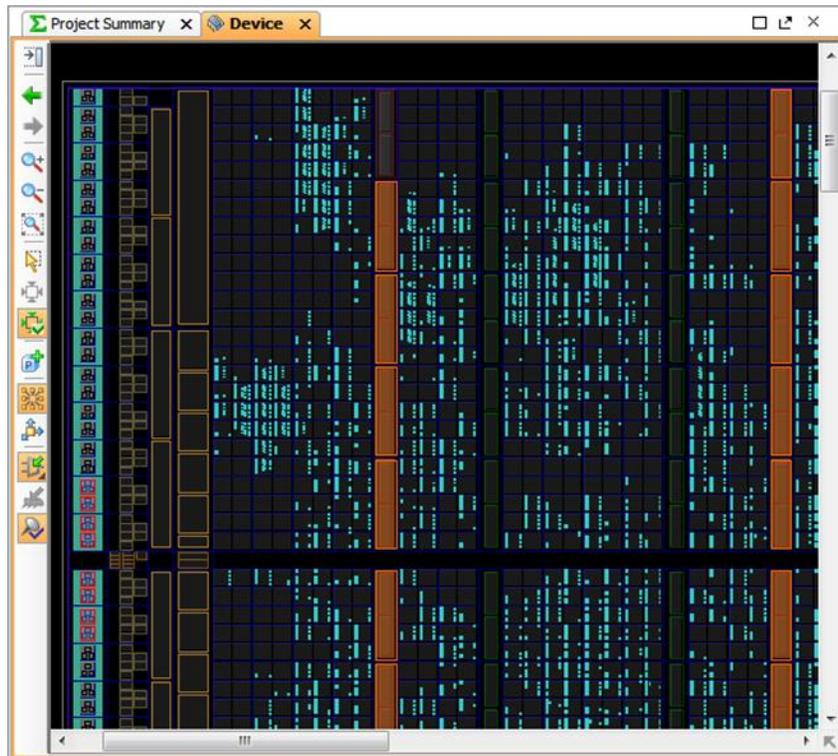

Figure 37: Fixed Block RAMs
8. Zoom in and notice that “Fixed” cells display in a different color than unfixed cells, as seen in FIGURE 37.